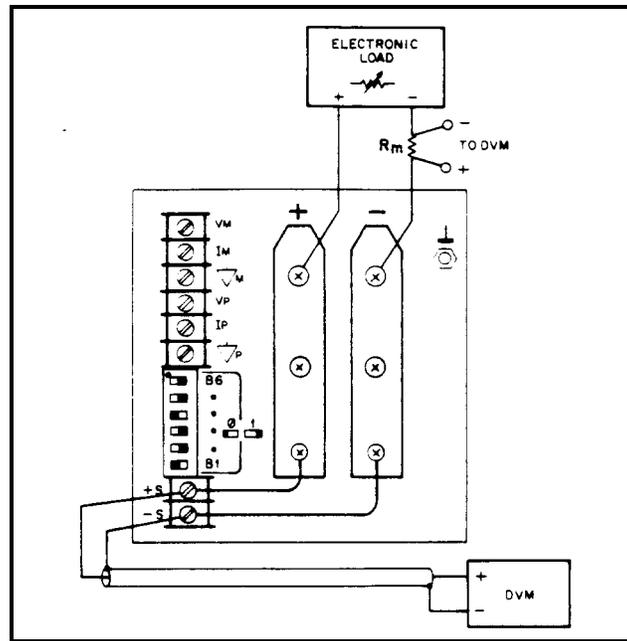

Figure 2-5. Basic Test Setup
- a. Connect the test equipment as shown in Figure 2-5. Operate the load in constant resistance mode (Amps/Volt) and set resistance to maximum.
Use the equipment setup of Figure 2-5 to display output voltage transients while switching the load between 10% with the output set at:
- a. Connect the test equipment as shown in Figure 2-5. Operate the load in constant-current mode and set for minimum current.